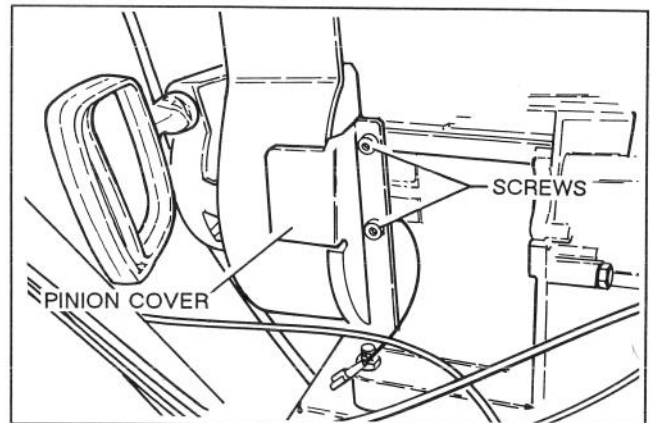

Figure 8
15. Remove and discard two self tapping screws securing pinion cover to engine and remove cover (Fig.8).